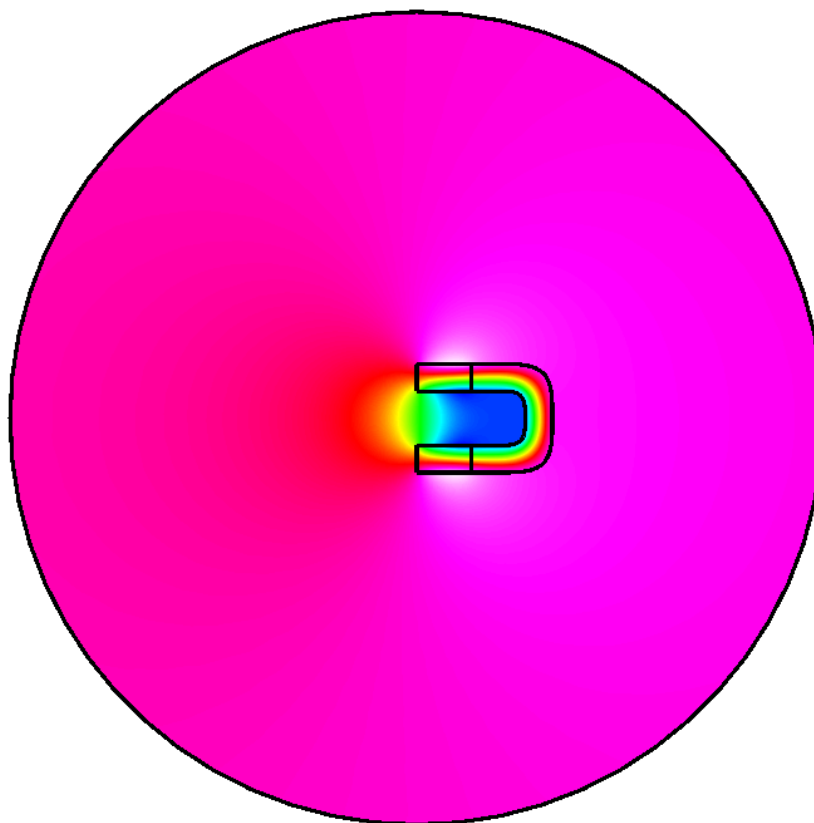

Figure 6.2: The vector potential of the magnetic field.
The resulting z-component of the vector potential is depicted in Figure 6.2. The corresponding postprocessed magnetic field intensity is depicted in Figure 6.3. Note that the derived fields is enforced to be continuous by default which is not optimal for visualization. For optimal results use Discontinuous Galerkin (DG) method for the postprocessing. Note that when using DG the postprocessing should be done with .vtu files and Paraview. The postprocessing tools of Elmer cannot deal with elementwise-fields.